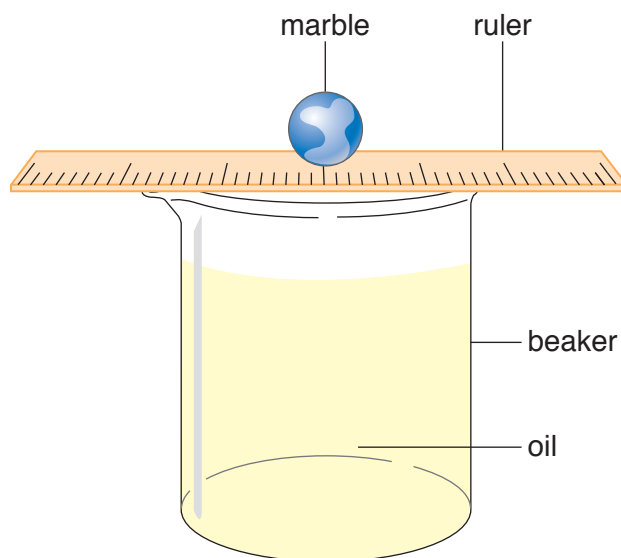

Figure 2
8. Lay a ruler across the top of one of the beakers. Place a marble on top of the ruler (see Figure 2).